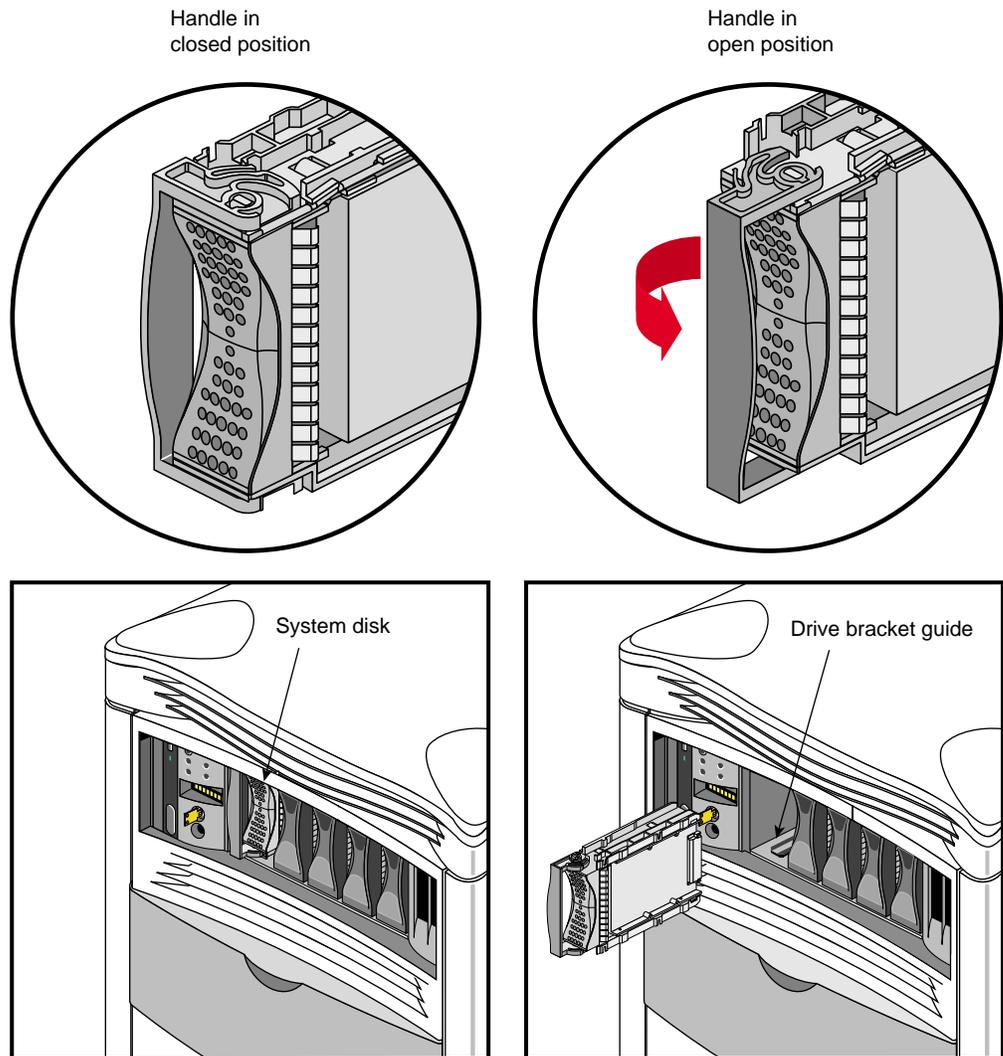

Figure 5-1 Installing or Removing the System Disk
2. Unlock the handle by moving it to the right (the handle is centered and in the open position, as shown in Figure 5-1). Note that the handle opens to the left in bays two through five; see the next section "Removing or Inserting a Data Disk."